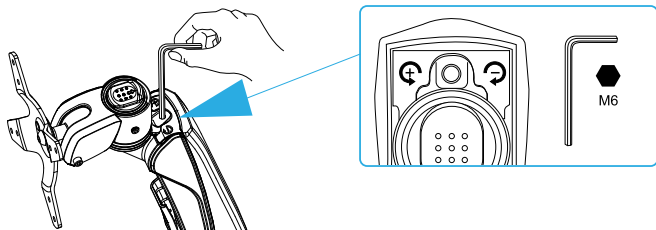

Figure 20
1. While **Supporting** the weight of the **Monitor**, use the **Hex Key** to turn the **Tension Adjustment Screw** on the **Spring Arm**. Turn **Counterclockwise** to **Increase** the **Tension** for **Heavier Monitors**, or turn **Clockwise** to **Decrease** the **Tension** for **Lighter Monitors**. (Figure 20)